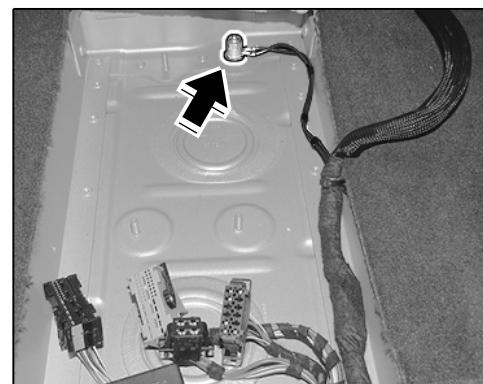

Figure 16
- 2.5 Connect cable ring eyelet (BN ground strap) to ground point MB 6 \Rightarrow Figure 16 -arrow-.